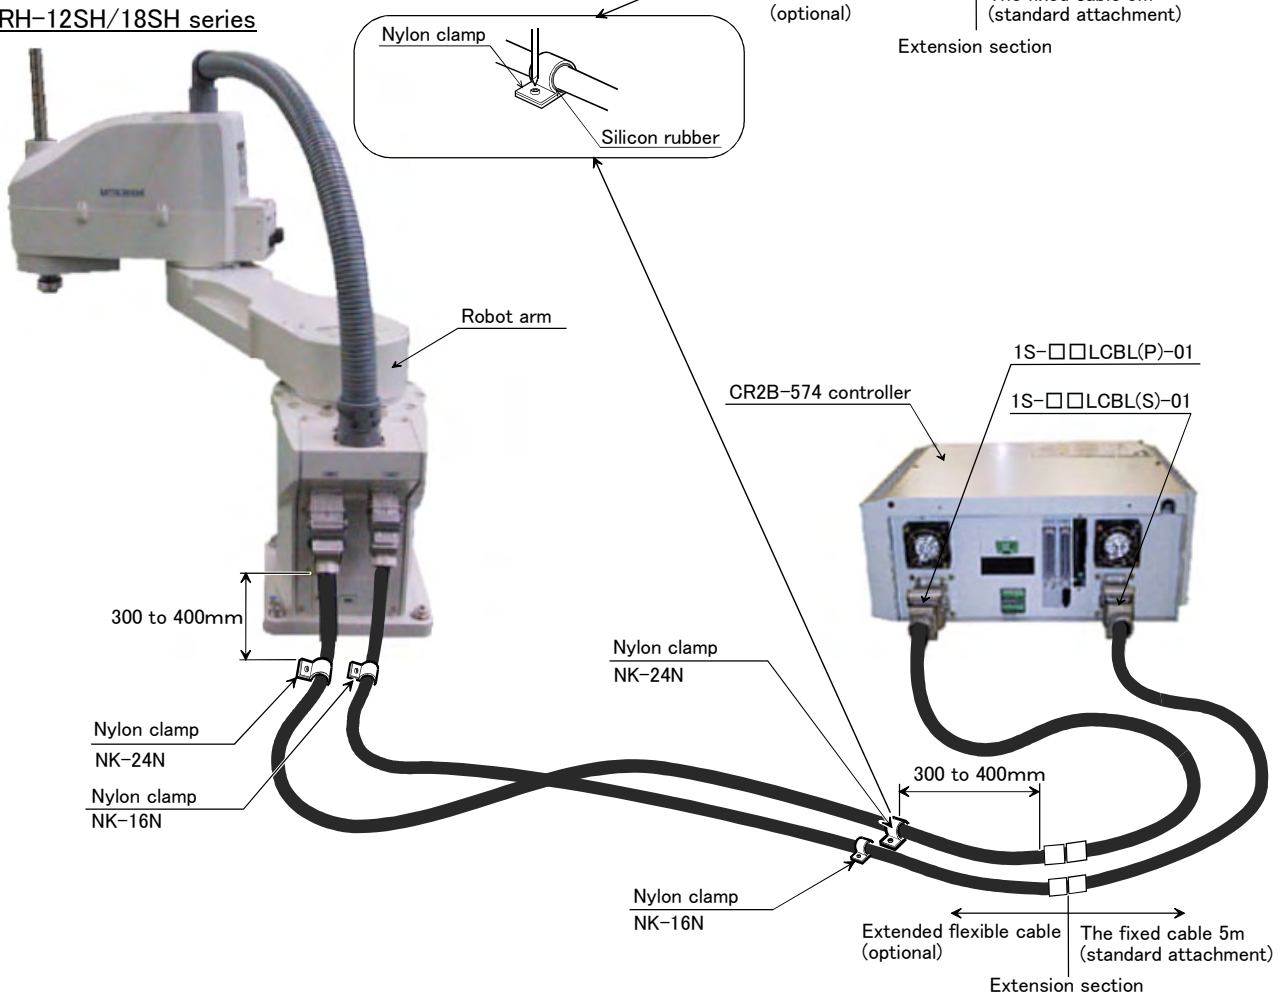

Fig.2-43 : Fixing the flexible cable
- (1) Connect the connector to the robot arm.
- (2) Wind the silicon rubber around the cable at a position 300 to 400 mm from the side of robot arm and extension section as shown in Fig. 2-43, and fix with the nylon clamp to protect the cable from external stress.